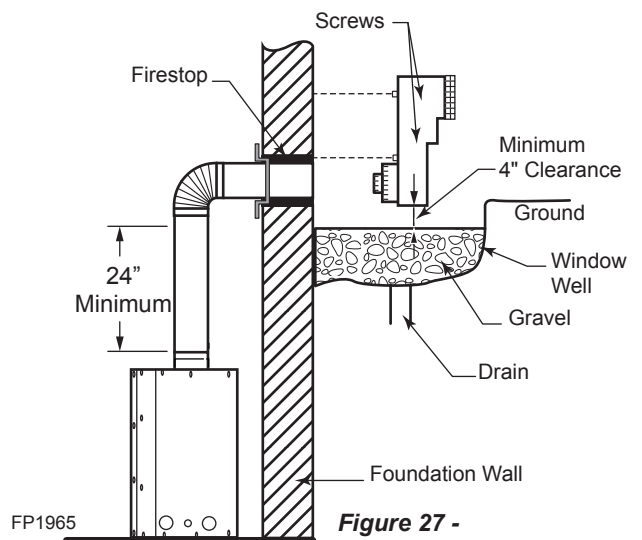

Figure 27 - Below Grade Installation
2. Remove soil to a depth of approximately 16" below base of snorkel. Install drain pipe. Install window well (not supplied). Refill hole with 12" of coarse gravel leaving a clearance of approximately 4" below snorkel. *Figure 27*
7. Level the soil so as to maintain a 4" clearance below snorkel. *Figure 27*